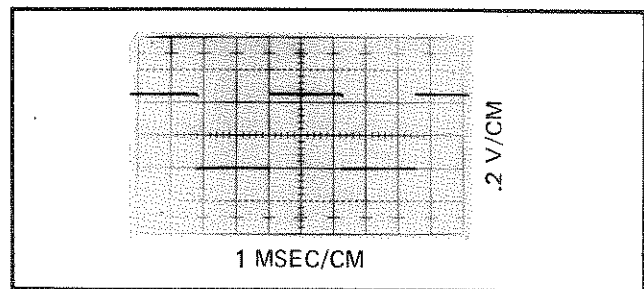

Figure 4-6. MULTIVIBRATOR SIGNAL -- TP9
d. Compare the oscilloscope display with the waveform shown in Figure 4-6 for amplitude, period, and symmetry. The observed signal parameters should be equal to those of the given signal within $\pm 10\%$.